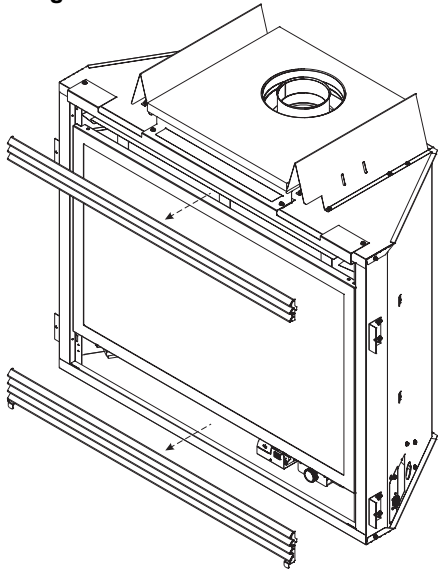

Figure 95
1. Remove top and bottom louvers by lifting up and pulling them out. **See Figure 95.**